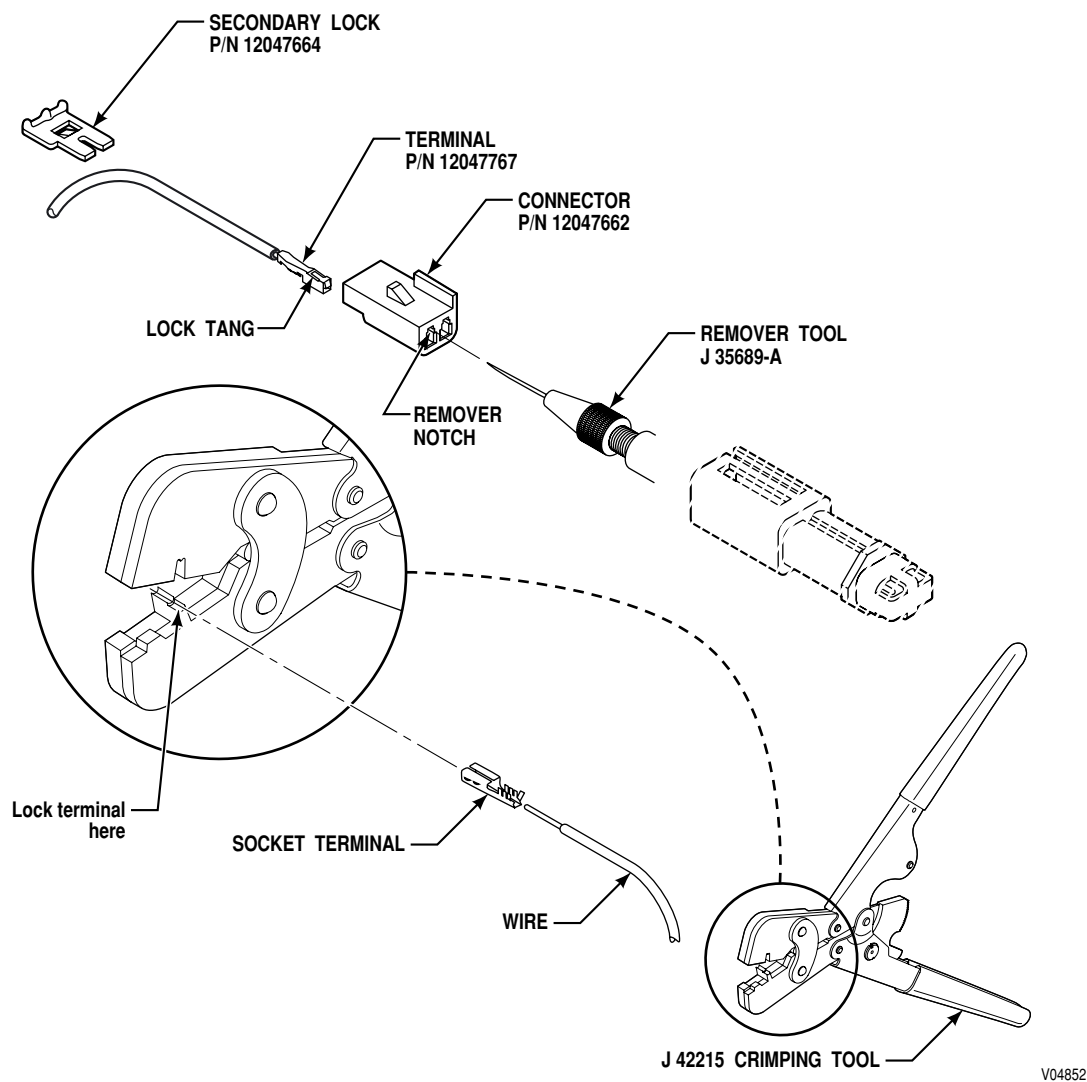

Figure C-3. Delphi-Packard Metri-Pack 150 Series Connector—Push-To-Seat (Sump Temperature Thermistor)
2. Insert needle end of terminal remover J 35689-A into the small notch in the front of the connector cavity of the terminal to be removed (refer to Figure C-3).